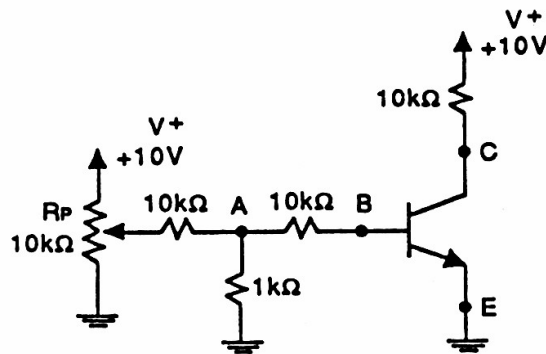

Figure 4: A Bad Base-Voltage-Biasing Circuit.
For the circuit shown in Fig. 4, with  $V^+ = 10\text{ V}$ ,  $R_I$  is adjusted until  $V_C = 0.697\text{ V}$ , in which case,  $V_B = 0.693\text{ V}$ . By what amount must the temperature of the transistor rise for saturation at  $V_{CEsat} = 0.20\text{ V}$  to occur? Assume a TC of  $-2\text{ mV/C}$  and  $n = 1$ .
- **Setup:** Connect the circuit as shown in Fig. 4.